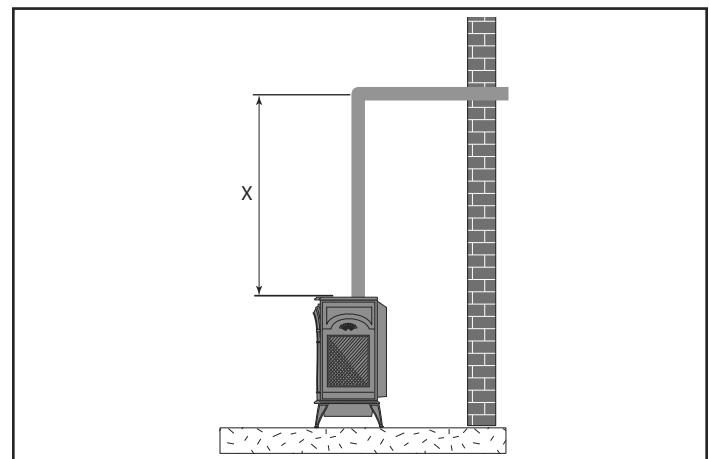

Figure 31 - Vertical Height Requirements
3. Place stove into position. Measure the vertical height (X) required from the base of the flue collars to the center of the wall opening. Figure 31